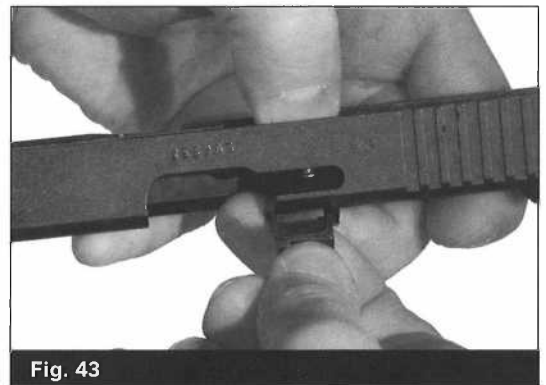

Fig. 43
- Insert the extractor into the extractor cut and simultaneously press down on the firing pin safety. This will allow both parts to fit together properly. When released, both parts should remain in the slide. (Fig. 43/44)